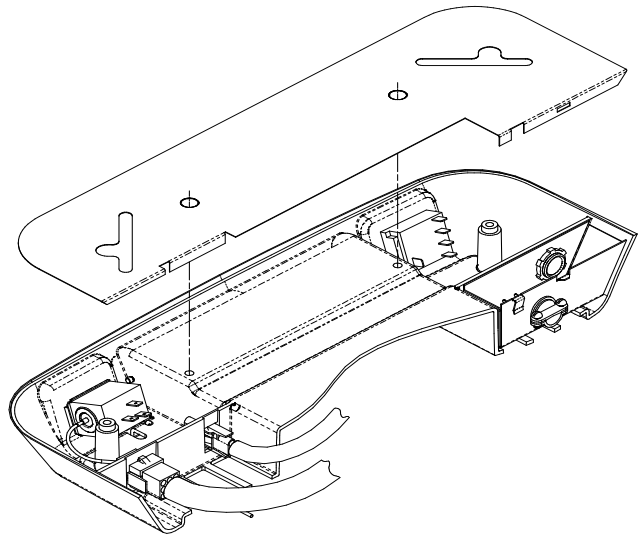

**FIGURE 7**
Plug the heater cord into the 2 position receptacle (See Figure 7).
- E. Plug the roof top air conditioner electrical conduit into the 9 position receptacle located in the thermostat side of the ceiling assembly (See Figure 7).
- H. Place the metal control box shield over the thermostat, switch and field wiring boxes. Make certain that all wires are pushed into the control boxes or laying in the wireway between the thermostat and switch boxes and will not be pinched by the control box shield. Control box shield is properly installed when the two holes in the shield are aligned with the two screw holes in the ceiling assembly chute (See Figure 7).
- J. The ceiling assembly shroud is curved to contour to a crowned ceiling. If installation is to a flat ceiling and gaps are present on the sides of the shroud, insert the four optional 3/4 inch screws (provided) through the mounting posts and secure them to the mounting frame above (See Figure 7, 8 & 9 for screw locations).